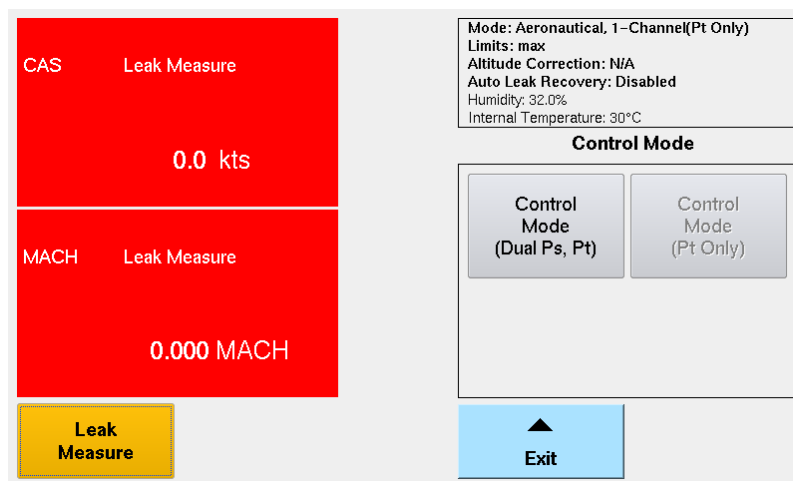

Figure 20 Optional 1-Channel (Pt Only) Mode
- (2) Aeronautical 1-Channel (Pt Only) (Figure 20)